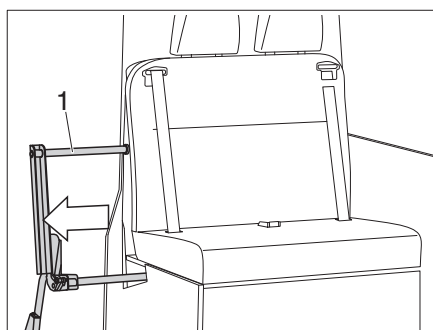
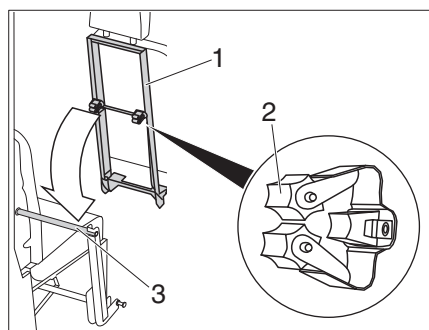
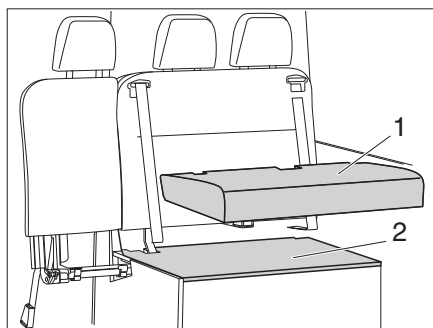

Fig. 42 Pulling out the seat extension
Fig. 43 Hook in backrest
Fig. 44 Remove the seat cushion
- Pull the seat extension (Fig. 42,1) out of the two-person seat.
- Hook the backrest (Fig. 43,1) with the two clips (Fig. 43,2) into the seat widening (Fig. 42,3).
- Remove the seat cushion (Fig. 44,1) and the chest cover (Fig. 42,2).